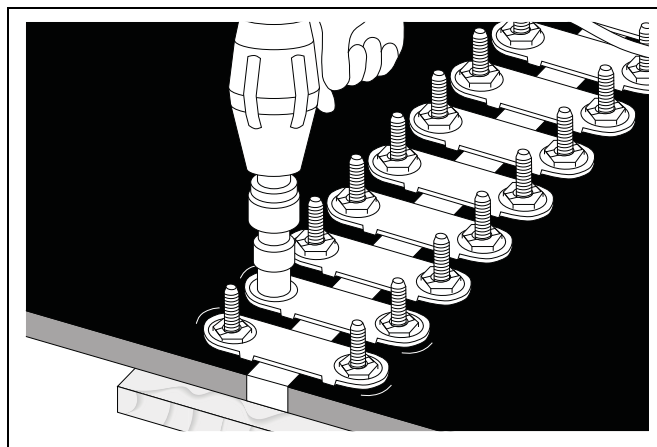

Figure 4AE
11. Hammer plates in belt with wood block. Retighten nuts. *(See Figure 4AF.)*